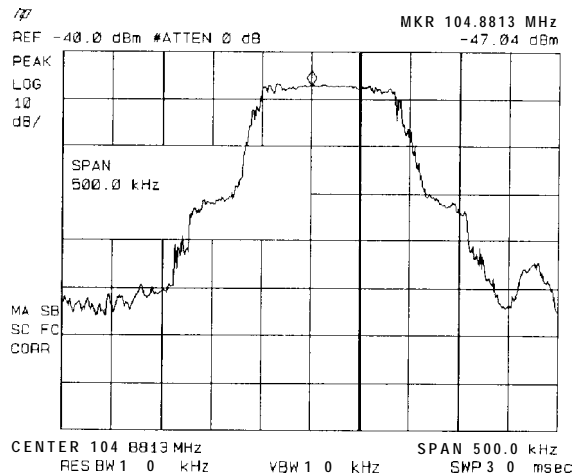

Figure 3-10. Viewing an Unstable Signal Using Max Hold A
- To measure the excursion of the signal, press **(TRACE)** then **MAX HOLD A**. As the signal varies, maximum hold maintains the maximum responses of the input signal, as shown in Figure 3-10.